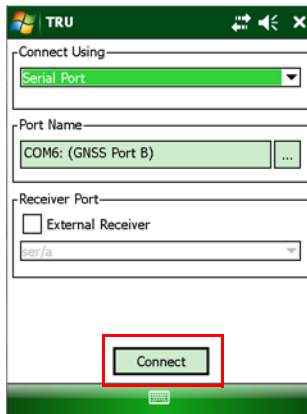

Figure 4-4. TRU – Connection Parameters Window
4. In the **Connection Parameters** window (Figure 4-4), do the following: